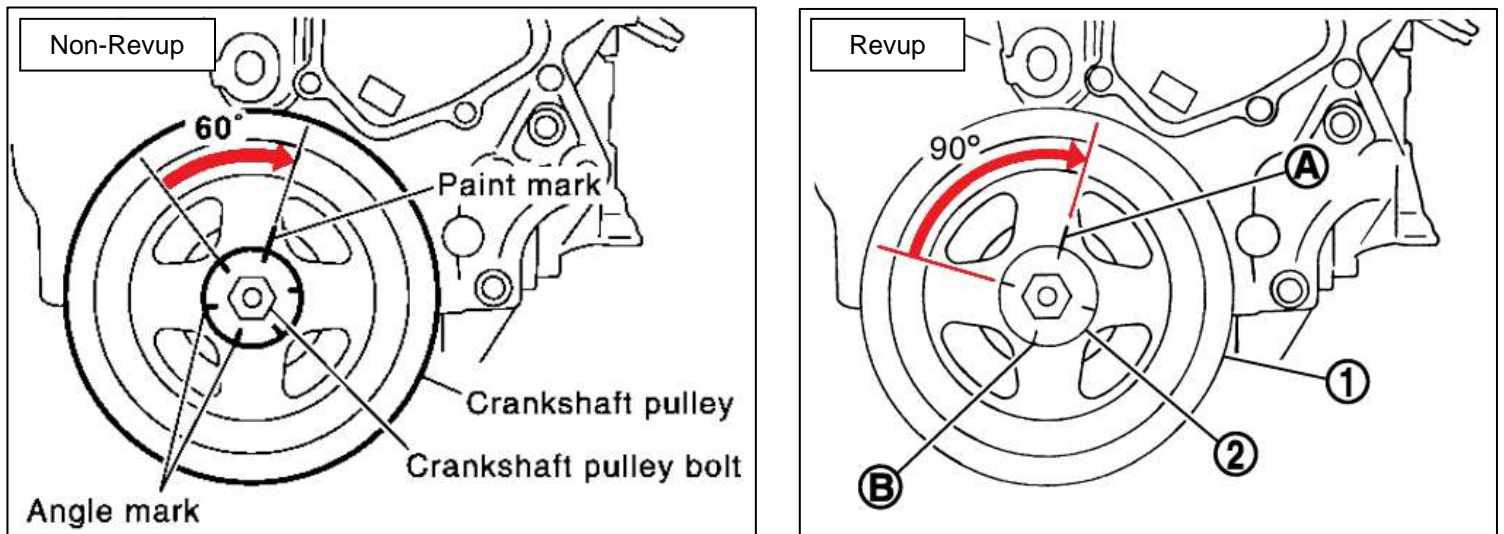

Figure 3
10. Install the Crankshaft Bolt to secure the Crank Pulley. Torque the bolt to **33 ft-lbs**. After torquing, tighten the bolt an additional 60° for **NON-REVUP ENGINES**, and an additional 90° for **REVUP ENGINES**. *Figure 3.*